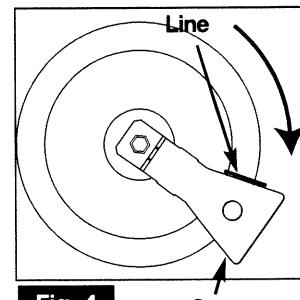

Fig. 4
- Turn the spanner clockwise until the line appears on the other side (fig. 4).